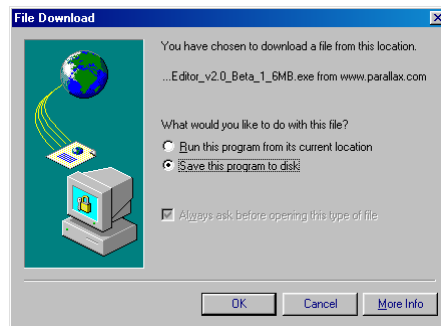

Figure 1-10
- ✓ When the File Download window shown in Figure 1-10 appears, select: *Save this program to disk.*